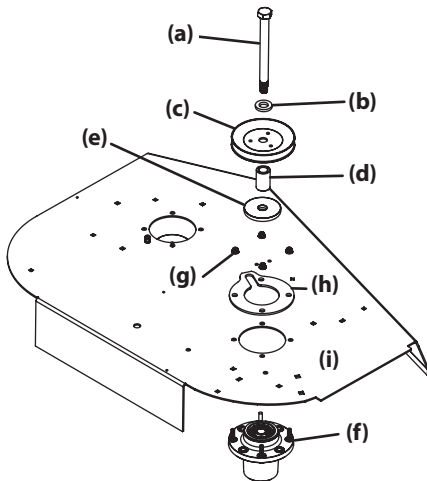

Figure 42
- Remove the hex bolt (a), washer (b), pulley (c) spacer (d) and fender washer (e) from the spindle assembly (f) (Figure 42).
- Remove the four flange lock nuts (g) and support plate (h) securing the spindle assemblies (f) to the deck (i) (Figure 42).
- Reverse STEPS 4-5 to install the spindle assembly. When installing the new spindle assembly be sure to install the hardware exactly as shown in Figure 42. Torque the flange lock nuts to 21-32 ft-lbs (28.47-43.39 N-m).